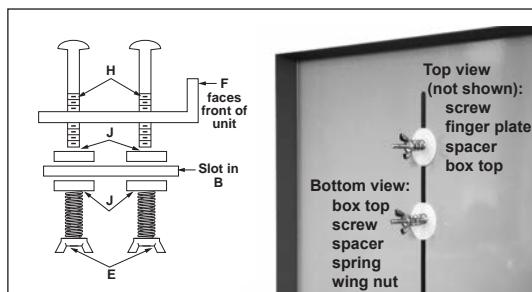

FIGURE 3
Insert the channel mount screws (D) through the holes on the finger plate (B) as shown in FIGURE 3 and put one teflon spacer (F) through each screw (D). Place the screws into the channel on the Top Plate (TP). Insert another spacer (F) into each screw under the Top Plate (TP). followed by a spring (E) and then a wing-nuts(A). (See Figures 3 and 4). Hand-tighten wing-nuts.